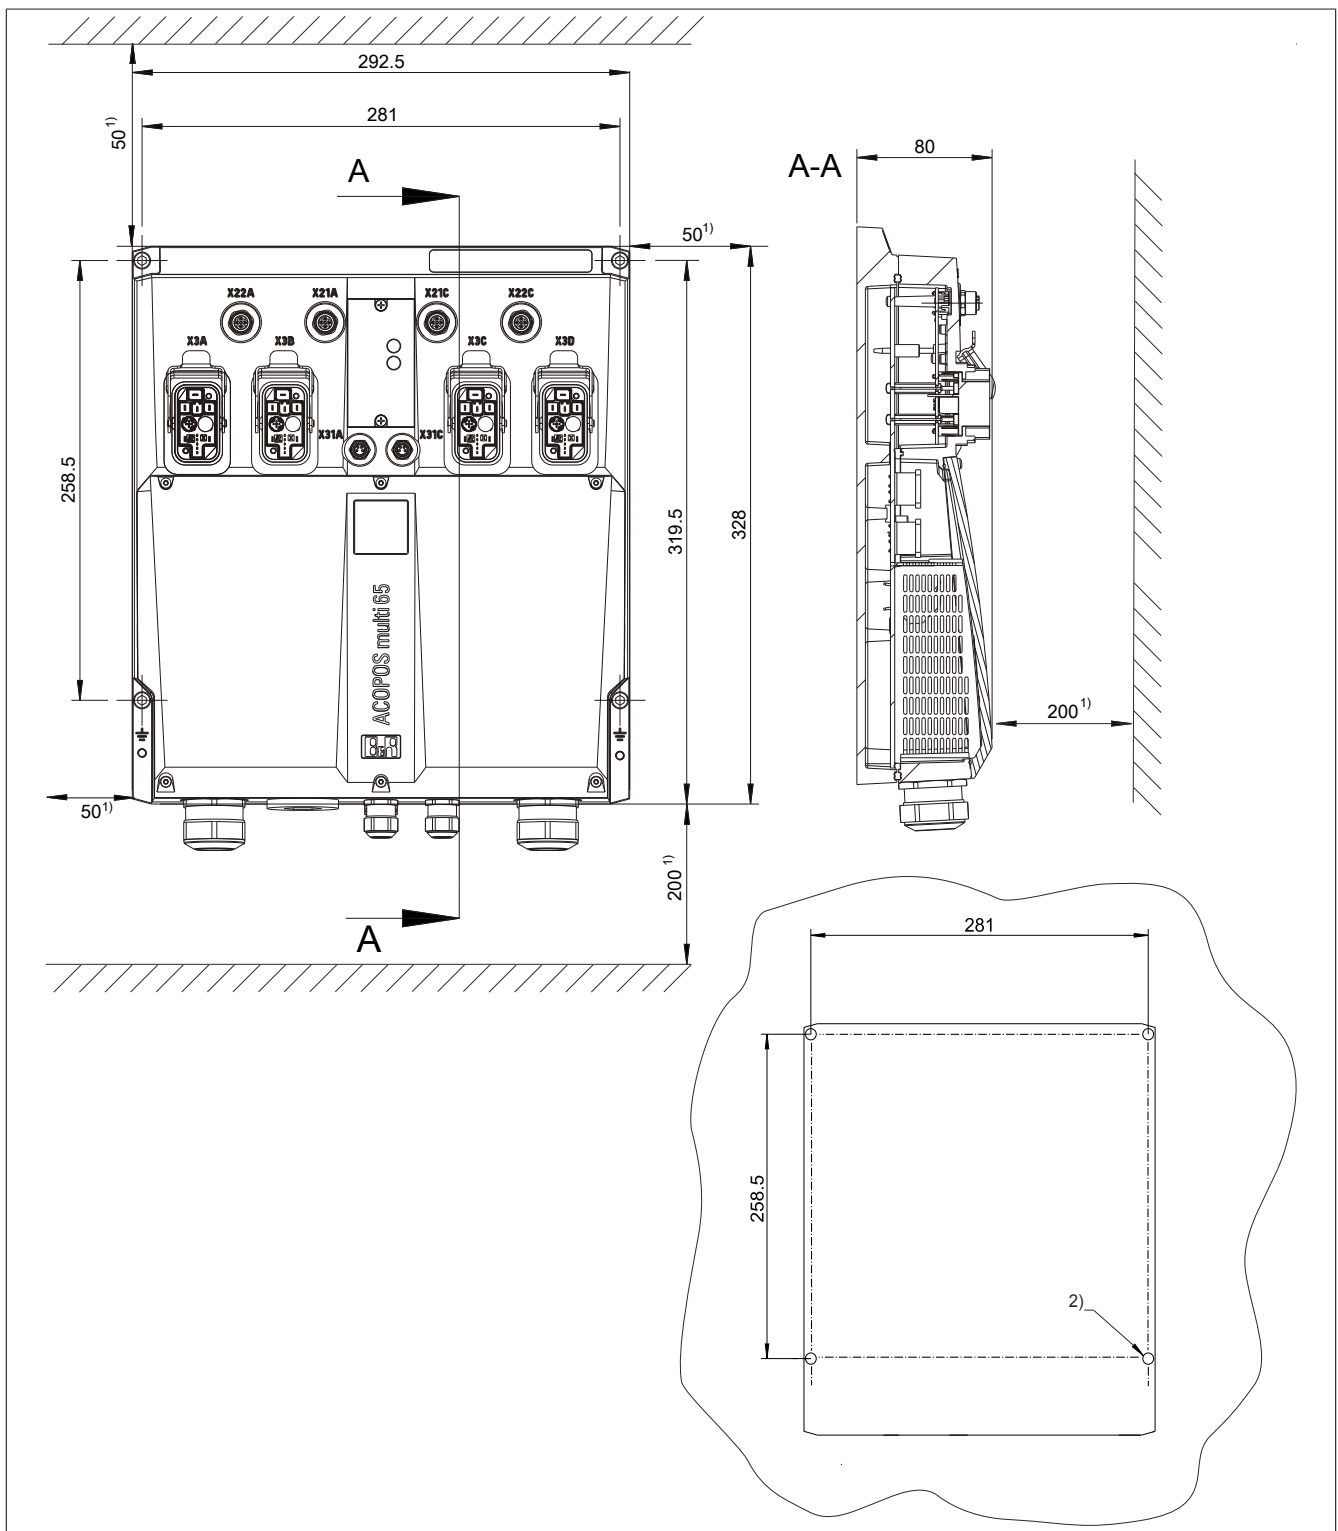

Figure 81: Dimension diagram and installation dimensions
- Create fixing holes in the mounting surface as shown in Section Fig. 81 "Dimension diagram and installation dimensions" on page 293.